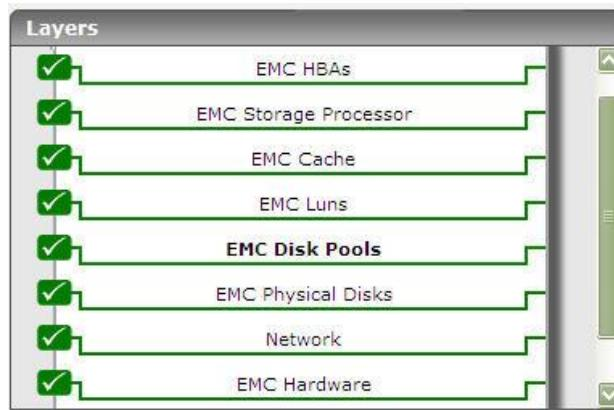

Figure 1.1: The layer model of the EMC CLARiiON device
1. If the storage device is SSL-enabled, then, when installing the **NaviSphere CLI**, make sure that the **Verification Level** is set to **Low** (see Figure 1.1). This ensures that the SSL certificate sent by the storage array is not verified by the CLI.
The sections that will follow discuss each of the layers of Figure 1.1 in great detail.